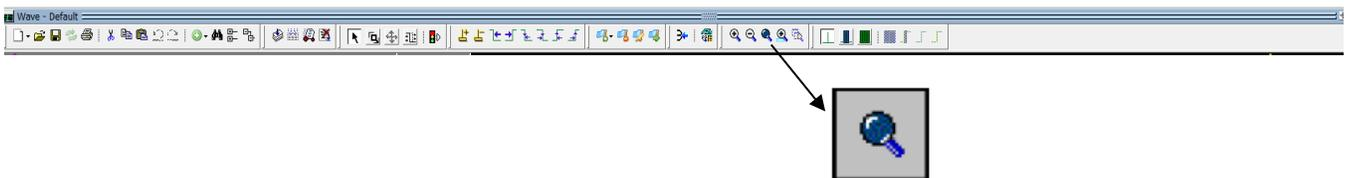

Figure 40. Zoom Full Button
2. Click **Zoom Full** to fit all the waveforms in the single view (Figure 40).